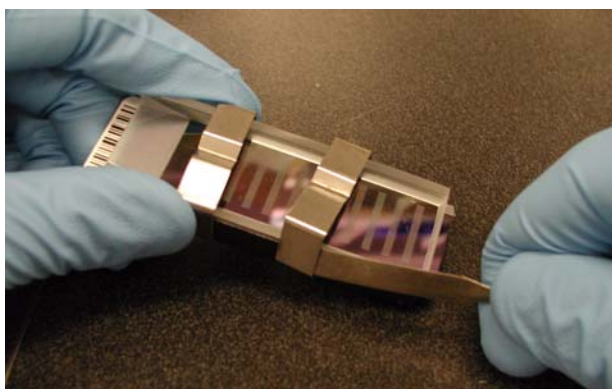

Figure 169 Removing Metal Clamps from Flow-Through Chamber
- a. Remove the two metal clamps (Figure 169).